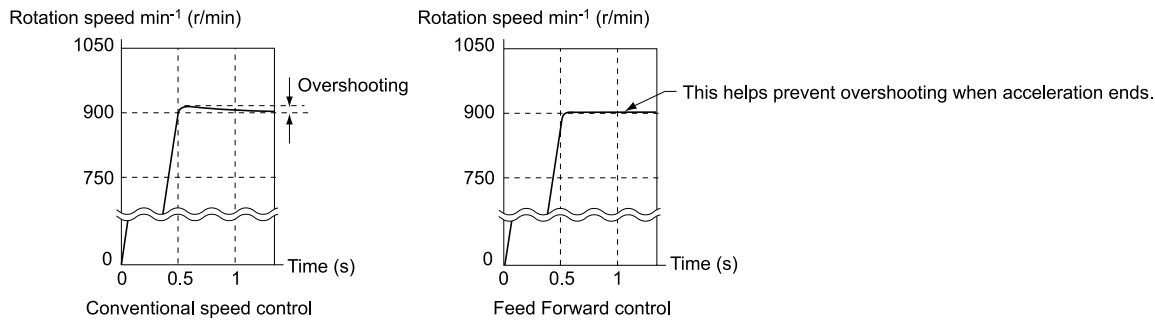
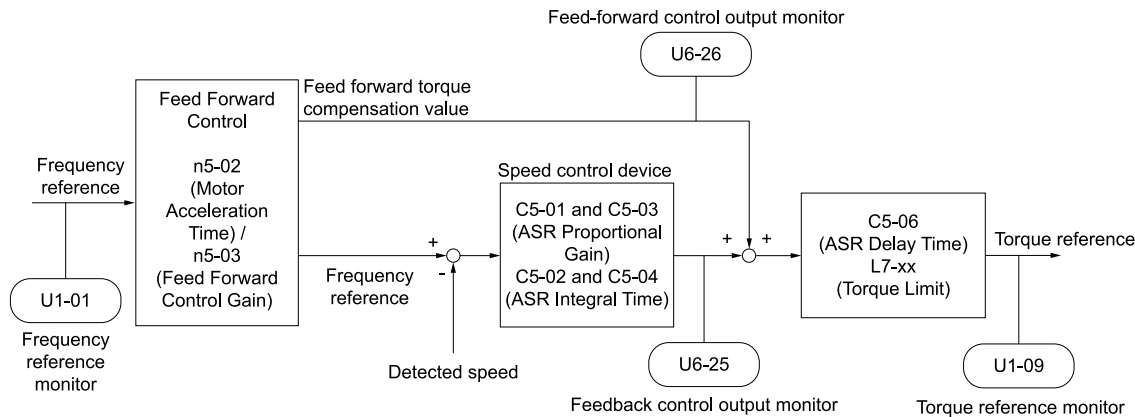

Figure 12.137 Suppress Overshooting with Feed Forward Control
Figure 12.138 Configure Feed Forward Control
Increase the values set in $C5-01$ and $C5-03$ [ASR Proportional Gain] to apply feed forward control to machines that have low rigidity and are possible to have hunting and vibration or to machines that have a large quantity of inertia. When you use this function in CLV control, it also helps prevent overshoot. Refer to Figure 12.137 for information. Refer to Figure 12.138 for more information about parameters related to feed forward control.
- If you cannot do Inertia Tuning, refer to Figure 12.138 and set the parameters related to feed forward control individually.